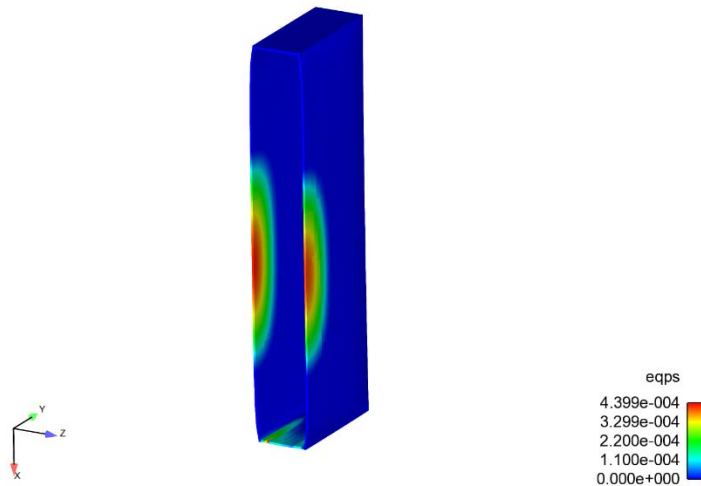

Figure 9. Capattery Housing Equivalent Plastic Strain at -20C with 5000 lb. Preload (Half symmetry shown at 10x displacement magnification.)
One item of interest is the capattery housing. The equivalent plastic strain of the capattery housing at -20C with the 5000 lb. preload applied is shown in Figure 9. As shown, the housing walls permanently deform outward due to the shrinkage in the potting material as the assembly cools from the elevated cure temperature down to the lowest operational temperature. During the 25kG peak, the equivalent plastic strain increases slightly from 0.04% to 0.05%. While these strains do not indicate that the housing itself is going to fail, the housing is expected to maintain electrical contact with the capattery core during operation, and therefore these plastic strains could cause the capattery to fail open. This same issue has been observed in other recorder designs (3DDR-AM and 3AMP); the solution has been to order special capatteries from AVX that contain conductive epoxy between the capattery core and the housing. For more information see Reference (3).